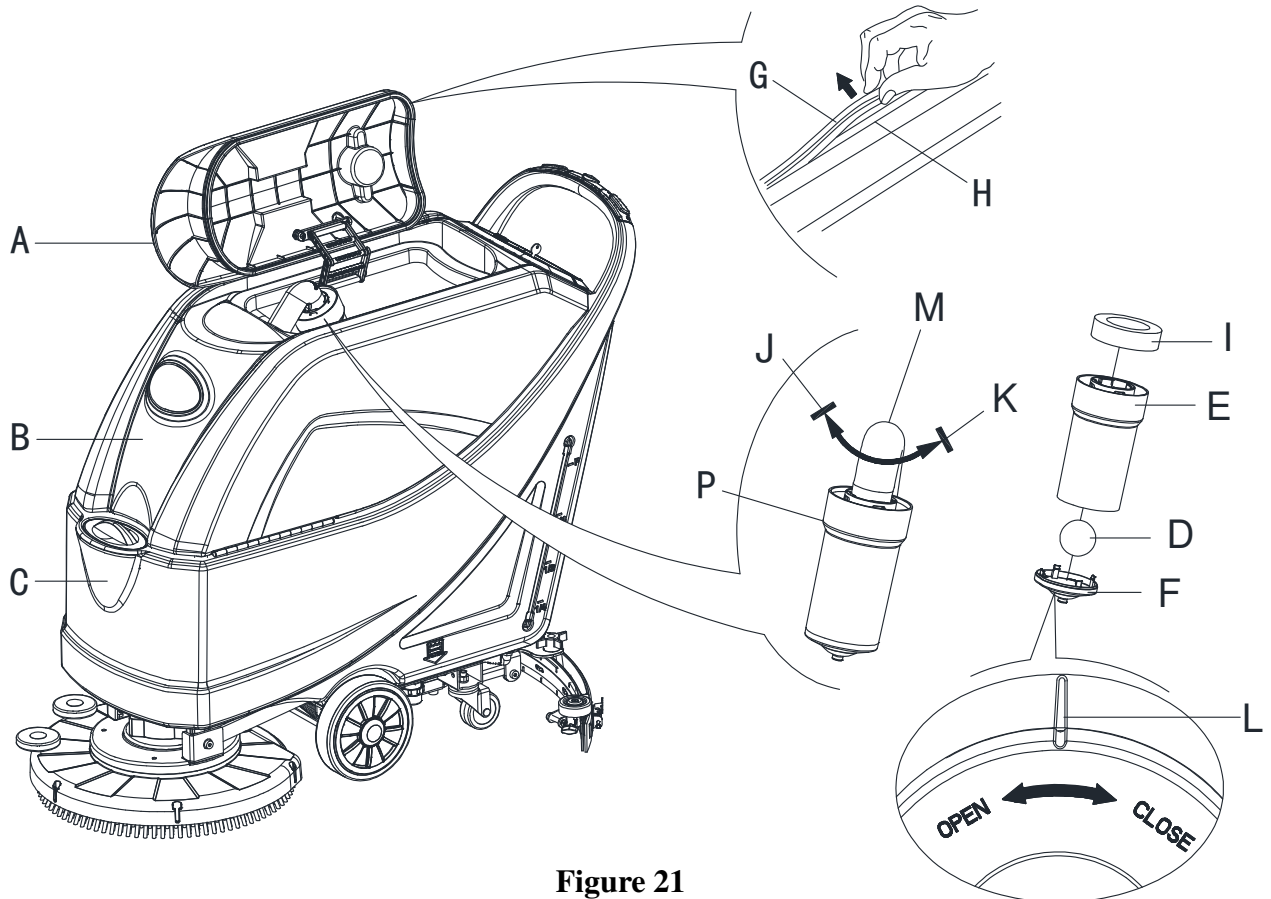

Figure 21
2. Ensure that the machine is off and the ignition key (54) has been removed.
3. Turn the recovery tank lid (A, Figure21) 90 degree position where it can be taken off from the tank, and then take down the float ball filter (P) from the tank.
5. If necessary, follow the symbols “OPEN” and “CLOSE” as shown in (Figure21) to open the bottom cover (F) of float ball filter and then clean the float ball (D), filter support frame (E) and filter sponge (I). After cleaning, fix the float ball (D) into the filter support frame (E) and then align the mark groove (L) of the bottom cap (F) of the float ball filter with the mark groove (L) of the float filter support frame (E).Screw the bottom cap of the float ball filter tight, and fix the filter sponge (I) onto the float filter support frame (E). Finally, connect it to the sewage suction hose (M).
7. Check whether the contact surface of sealing strip (G) is integrity and sealing is sufficient. If necessary, take the sealing strip of the tank out of the groove (H) and replace it. Assembly the new sealing strip as shown in (Figure21), the joint should be back in the middle area.
8. Close the recovery tank lid (A).